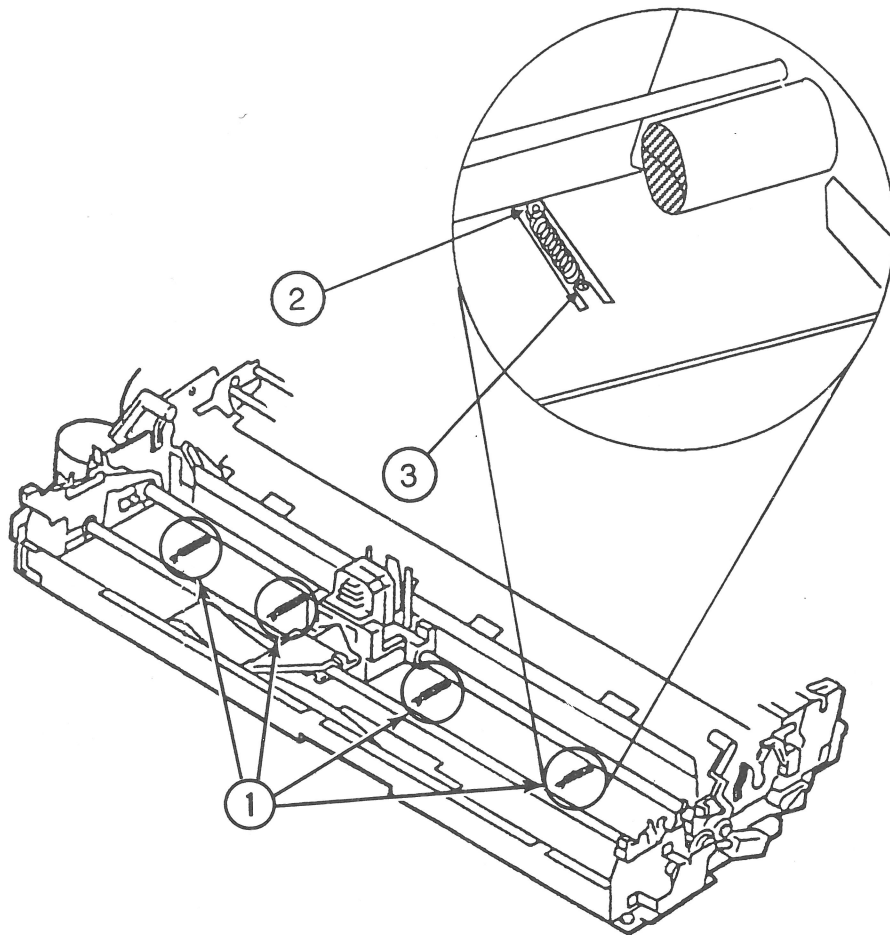

FIGURE 12
1. Locate the four paper deflector springs (Figure 12, #1). Remove them using needlenose pliers or cut them out.
Note: The hook on the spring that connects to the paper deflector (Figure 12, #2) needs to face upward. The hook on the spring that connects to the mechanism needs to face down (Figure 12, #3).
2. Using needlenose pliers, install the four new paper pan springs by attaching one end to the paper deflector (Figure 12, #2) and the other to the mechanism (Figure 12, #3).